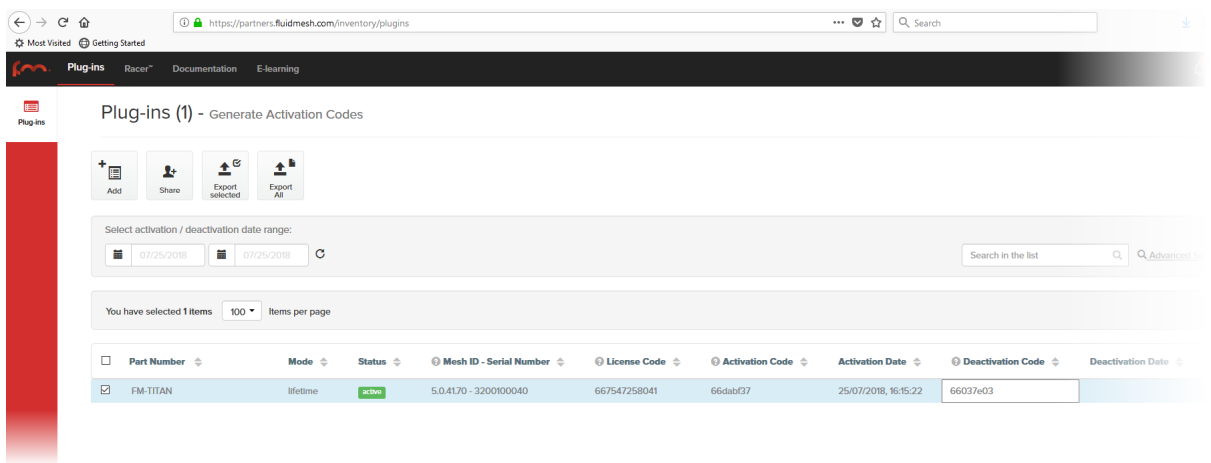

Figure 68. Partner Portal Plug-ins page (deactivation code entry)
8. Enter the Deactivation code for the plug-in in the Deactivation Code field (Figure 68 (page 154)).